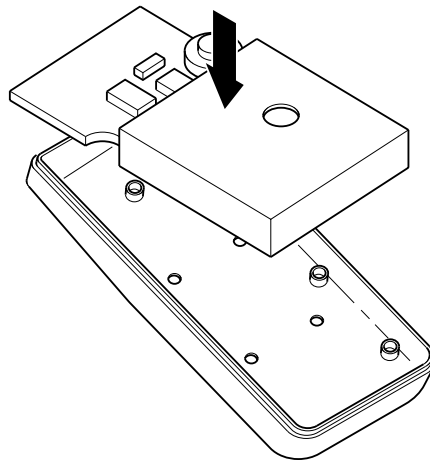

Figure 21: handset C reinstallation
- Figure 21 Reinstall the handset C into the case 3 screws